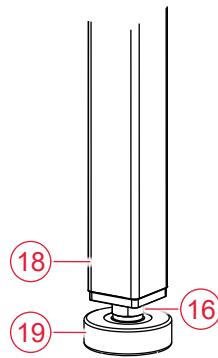

Fig. 14
**Support Legs, 36 and 52 Inch Fence Systems:** Begin by installing the leveling foot (19) in the bottom of each support leg (18). First, thread an M8 nut (16) onto the threaded shaft of the foot as close to the rubber base as possible. Next, thread the foot into the bottom of the support leg as far as possible (Fig. 14).